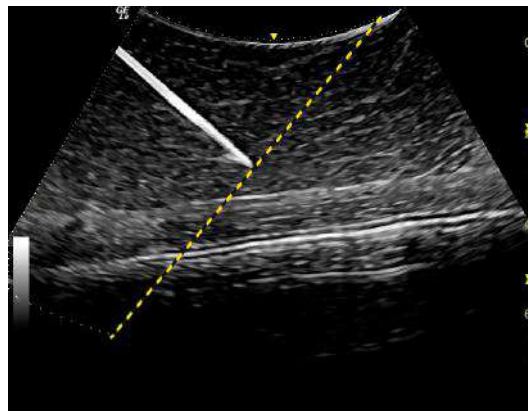
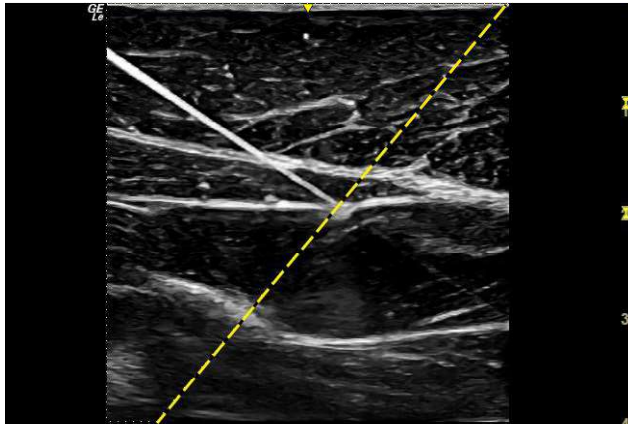

Figure 5-5. Example of needle that is perpendicular to the guide line
Figure 5-6. Example of needle angle that is slightly less than the beam angle
**NOTE:** For best results please insert the needle at perpendicular to the dotted guide line (Figure 5-5), or at a **needle angle** that is slightly less than the **Beam Angle** (Figure 5-6).